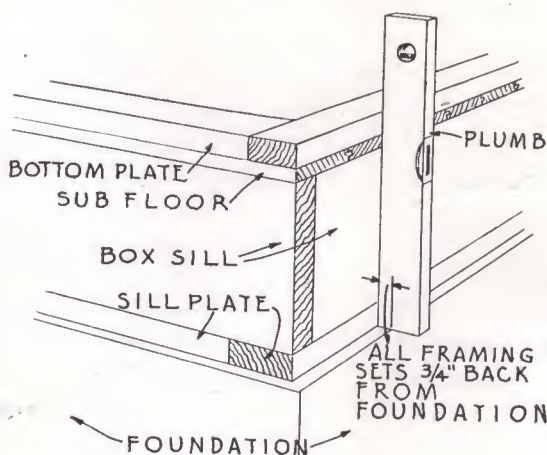

FIGURE 22
- (c) After the outside bottom plates have been properly arranged on the floor (as shown on the FIRST FLOOR PLATE PLAN and as described above) nail them down to the sub-floor and through to box sill. Use 16 penny common nails. Be careful that the plates are in a true, straight line and that the outside edges of the plates are flush or even with the outside of the box sill (see Figure 22).